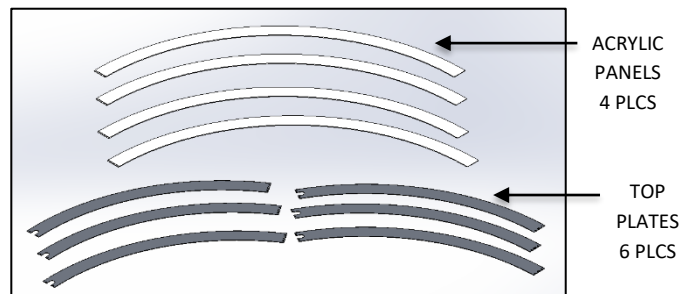

FIG. 6 - ACRYLIC PANELS & TOP PLATES
3. FOUR (4) ACRYLIC PANELS AND SIX (6) TOP PLATES (shown in FIG. 6)